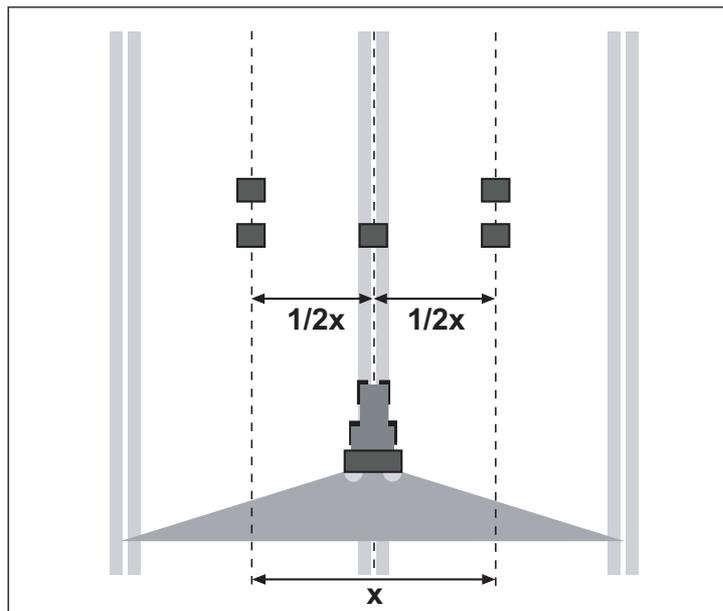

Figure 4.4: Layout for one passage
- Place two collecting vessels one after another at a distance of **1 m** in the overlap zones (between the tramlines) and one collecting vessel in the track (according to Figure 4.4).